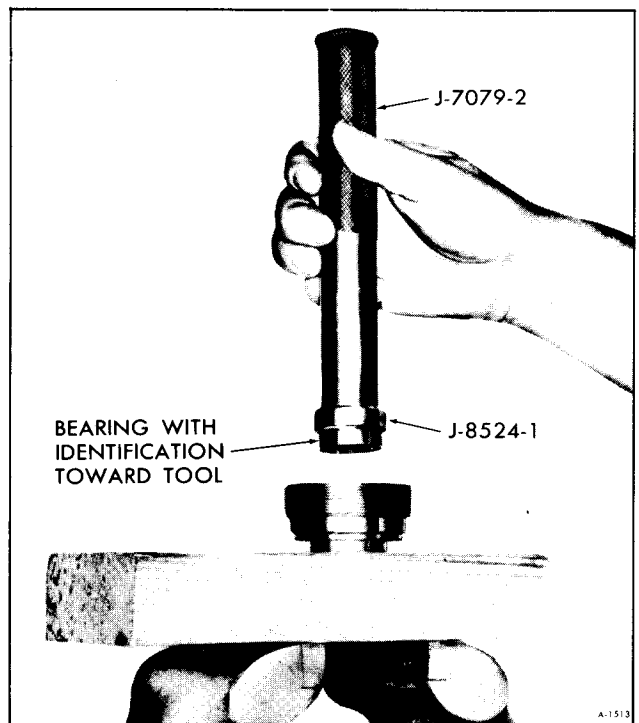

Figure 33—Installing Bearing
1. If the needle bearing was removed, place new needle bearing over Tool J-8524-1 and J-7079-2, with the bearing manufacturer's identification against the tool, and drive the bearing into the adjuster plug until the tool bottoms in the housing (figure 33).